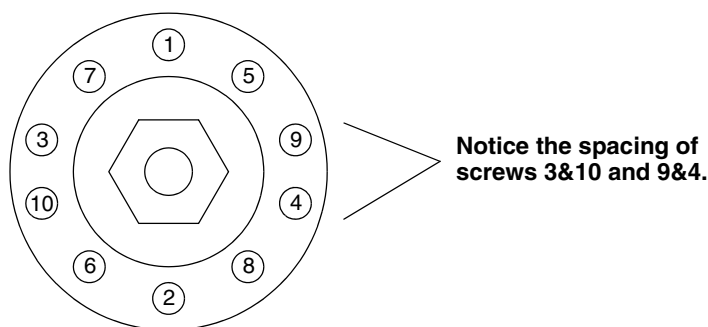

Figure 1: Screw torque sequence.
12. Torque the screws in the pattern detailed in Figure 1 progressively to 123 in-lbs. The gap between the base and cap should be even when complete.